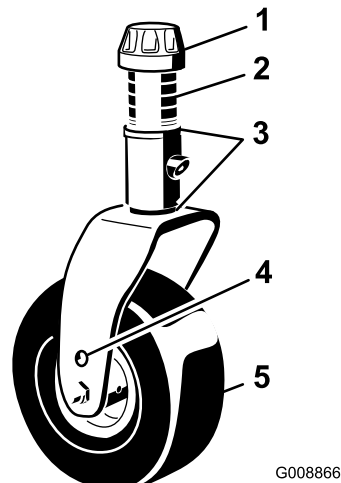
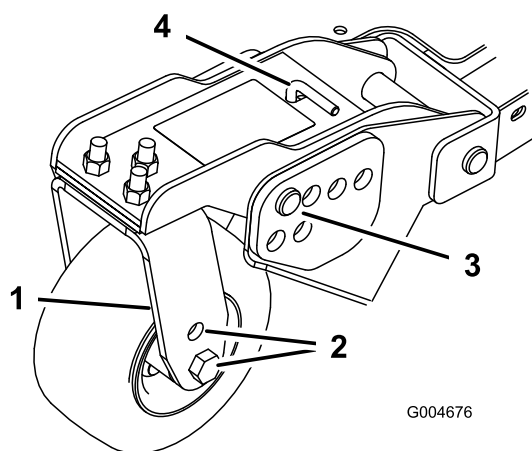
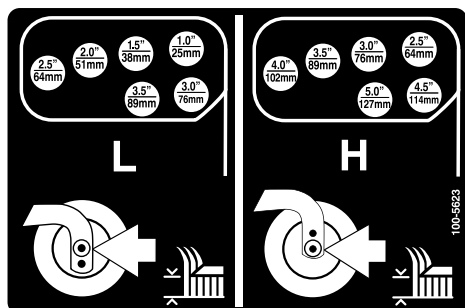

Figure 19
Figure 21
Figure 22
- Position the castor wheel axles in the same holes in all of the castor forks (Figure 19 and Figure 21). Refer to the following chart to determine the correct hole for the setting.
- Remove the tensioning cap from the spindle shaft (Figure 19) and slide the spindle out of castor arm.
6. Remove the hairpin cotter and clevis pins from the castor pivot arms (Figure 21).
7. Rotate tension rod to raise or lower pivot arm until holes are aligned with selected height-of-cut bracket holes in the cutting unit frame (Figure 21 and Figure 22).